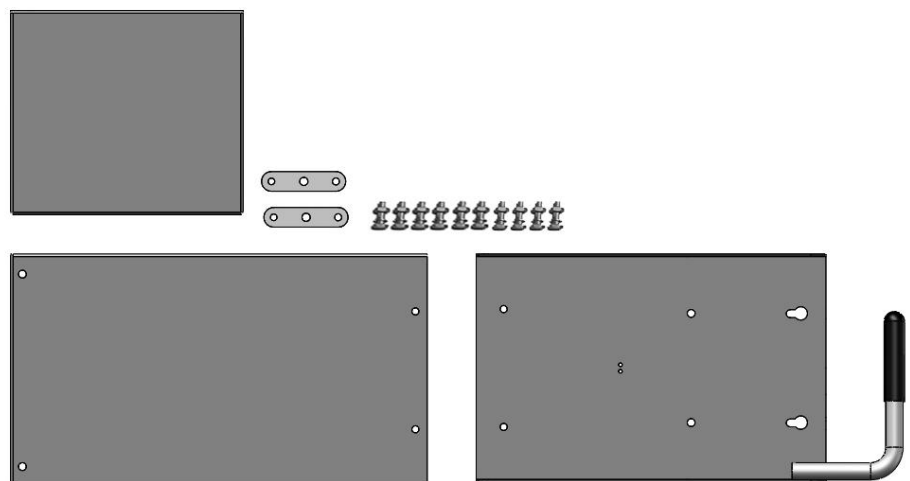

Fig.8
4. Open power unit stand carton and check the parts according to the parts list (See Fig. 8).